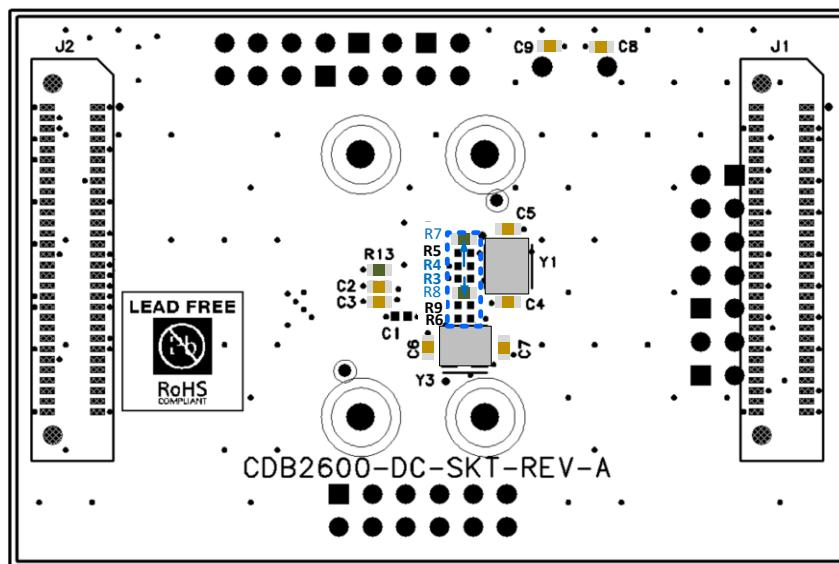

Figure 27 Daughter Card with Crystal Y2 Reference Clock Option (R7 and R8)
- The REF_CLK can be provided from the 12 MHz crystal Y2 on the daughter card. The part number of the crystal is *ECS-120-18-4X-CKM* (through-hole crystal); further information can be found in the crystal datasheet. Crystal Y2 is provided in a socketed connector; other pin-compatible through-hole crystals can also be substituted. The daughter card configuration is R7, R8 populated (0 Ω); R3, R4, R5, R6, R9 non-populated. The configuration is illustrated in Figure 27.